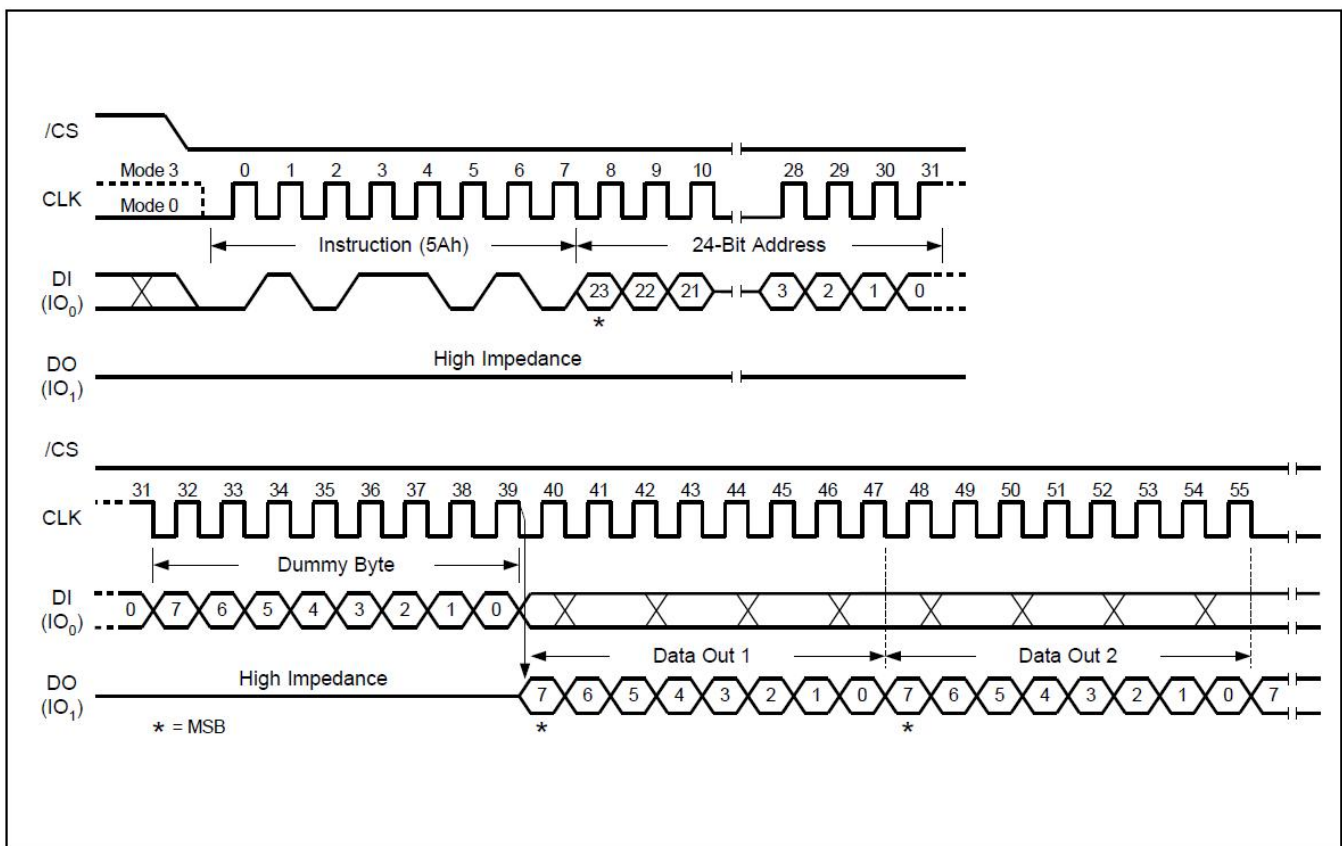

Figure 32. Read SFDP Register Instruction Sequence Diagram(SPI mode only)
The Read SFDP instruction is initiated by driving the /CS pin low and shifting the instruction code “5Ah” followed by a 24-bit address (A23-A0)(1) into the DI pin. Eight “dummy” clocks are also required before the SFDP register contents are shifted out on the falling edge of the 40th CLK with most significant bit (MSB) first as shown in Figure 32. For SFDP register values and descriptions, please refer to the Giantec Application Note for SFDP Definition Table.